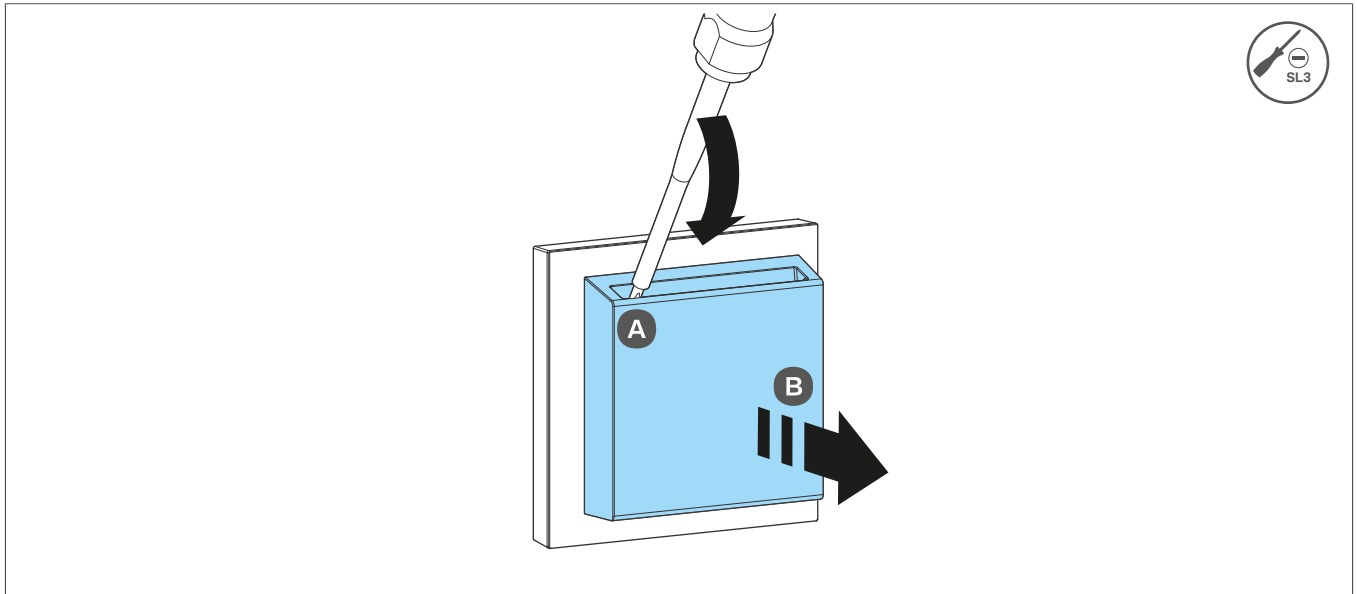

Fig. 4: Removing the design cover
- 1 Remove the design cover. To do this, insert a slotted screwdriver into the opening of the hotel card holder (Fig. 4) and carefully loosen and remove the design cover, first on the left-hand side **A** and then on the right-hand side **B**.